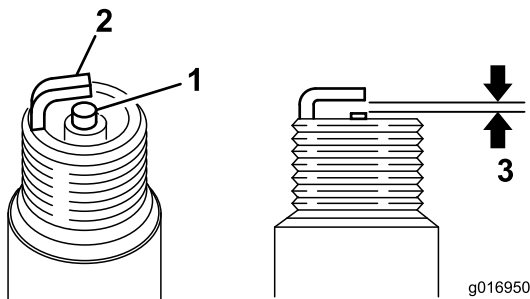

Figure 36
3. Set the air gap at 0.6 to 0.7 mm (0.024 to 0.028 inch) (Figure 36). Install the correctly gapped spark plug and tighten it firmly to 23 N-m (17 ft.-lb).